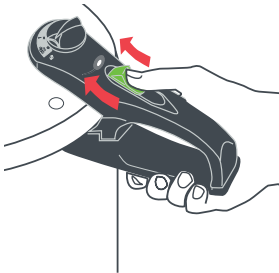

Fig.6
Open button (4). To open the lid, slide opening button **FORWARDS (TO PRESSURE INDICATOR)**, as shown in Fig 6. Unless you close the lid correctly, the opening button can't be moved. Even if you put the cooker on the hob, the steam will be released.